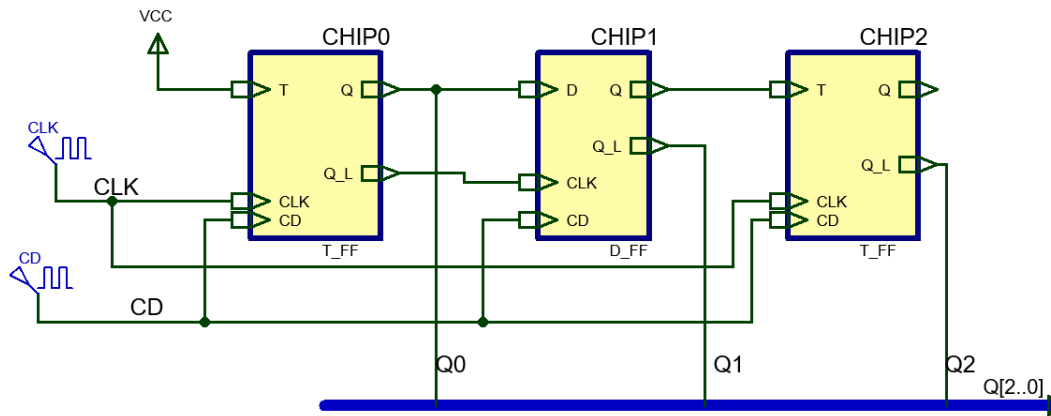

Fig. 1. Circuit based on flip-flops.
- a) Analyse the circuit in Fig. 1 using a timing diagram, naming all the signals of interest and indicating sampled values.